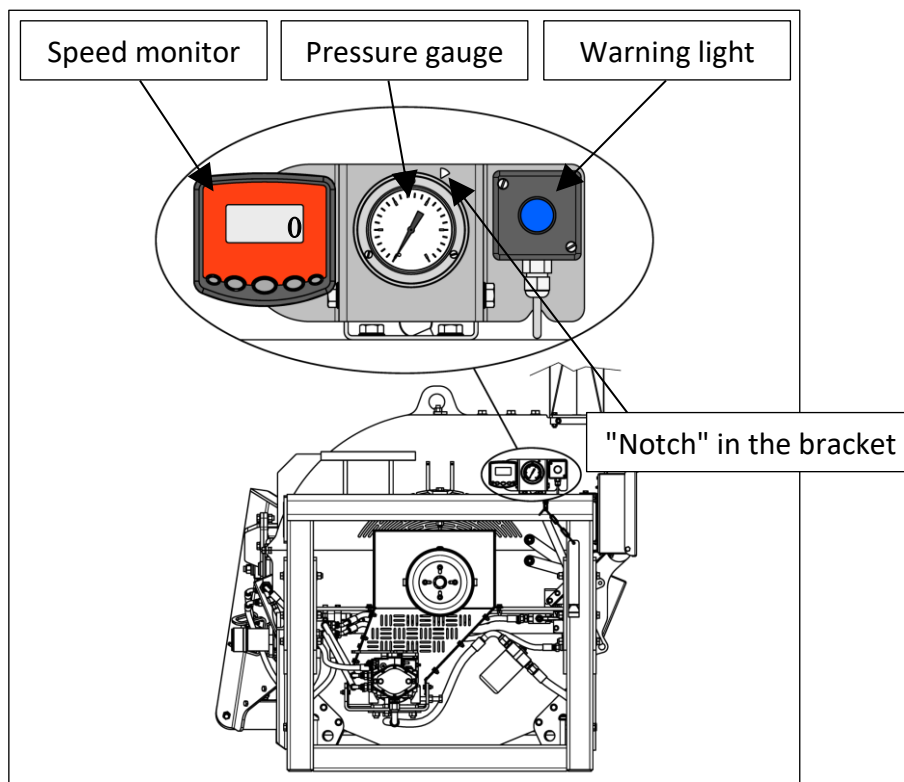
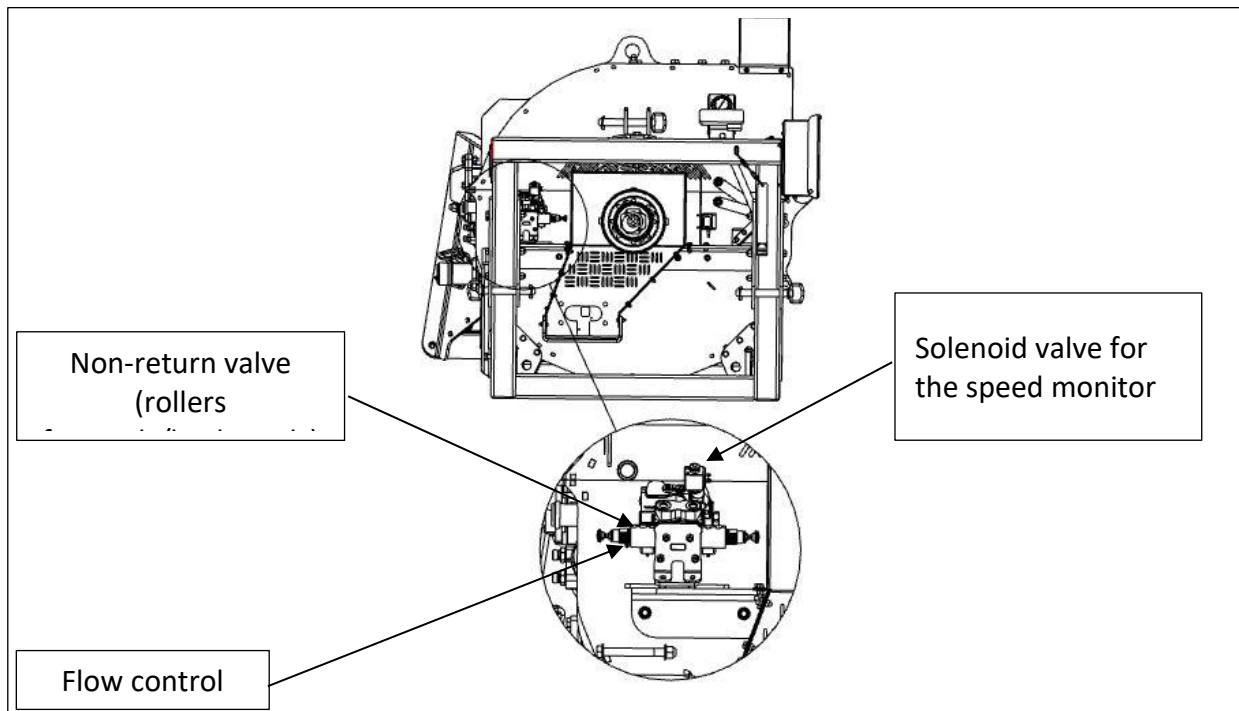

Figure 3- Control panel
Figure 4- Valves and ball valve
The speed monitor, located on the control panel (see Figure 3), ensures that the chipper's cutting disc has sufficient revolutions to chop wood into chips. The speed monitor can be adjusted to the tractor on which the chipper is mounted so that the chipper runs optimally in relation to the amount of horsepower you have available and how many revolutions you want to run with on the tractor's output axle.
There is a control panel on the chipper's chassis (see Figure 3) that provides important information about the chipper's operation.
- Should the pressure still exceed 155 bar, it is important to reduce the permitted pressure in the safety valve in the manoeuvring valve (see Figure 4 for the location). The hydraulic motors cannot handle a higher pressure and the seals in them will eventually leak.
- Next to 155 bar, in the bracket on which the pressure gauge is mounted, there is a triangular "notch" (see Figure 3) that indicates the maximum permissible pressure (155 bar). The pointer on the pressure gauge must not pass this notch at any time! If it does, the permissible pressure must be adjusted downwards in the safety valve in the manoeuvring valve (see Figure 4 for the location).
On PC-3300 models, a complete control valve is fitted, in which the speed monitor's solenoid valve, the electric control valve, the flow control, and the safety valve are combined into one unit (see Figure 4).